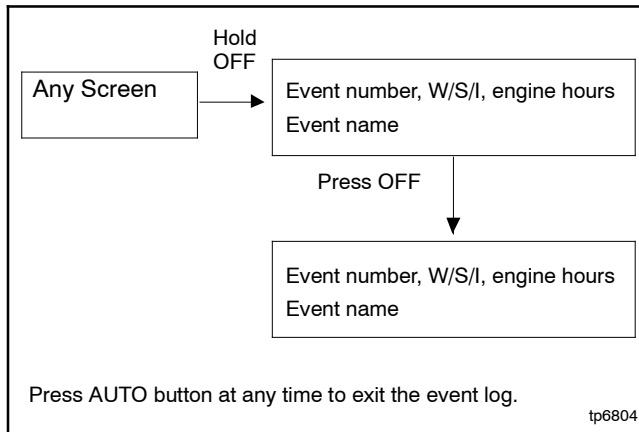

Figure 5-12 Event Log
The event log displays up to 10 controller faults and notices, starting with the most recent event. Events are numbered 1- 10, with 1 being the most recent. Each event is displayed with the date and time of the event, the number of the event, a letter to indicate whether the event was a warning (W), shutdown (S), or informational notice (I), the engine hours at the time of the event, and the event description. See Figure 5-12.